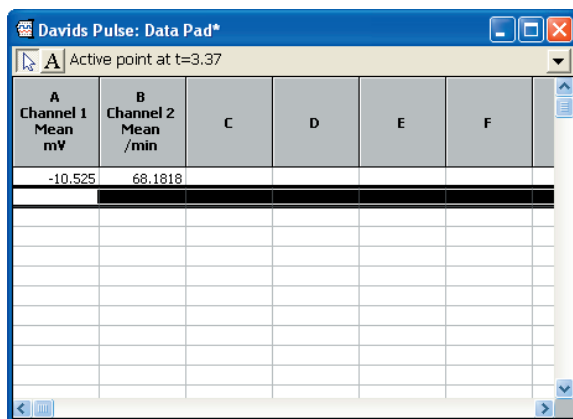

Figure 29. The Data Pad window.
1. Click on the Window... menu and select Data Pad... to bring up the Data Pad window. The Data Pad consists of a series of columns and rows that resemble a spreadsheet (Figure 29). Each column can be set up to record a single parameter from a selection of data.